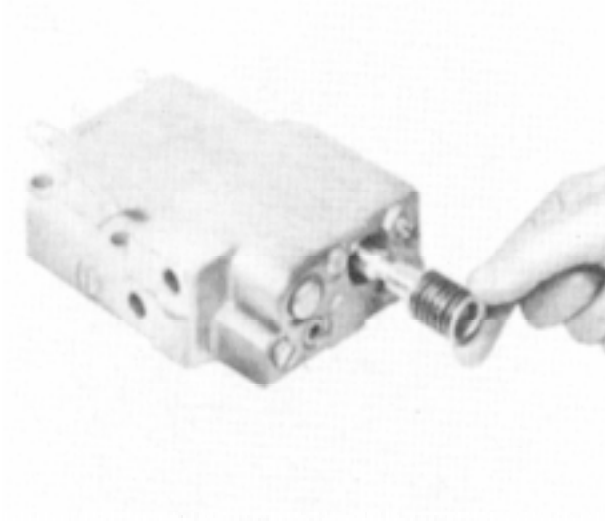

Figure 11
2. Gently tap the spool on the handle end and withdraw the spool from the centring spring end, Figure 11.